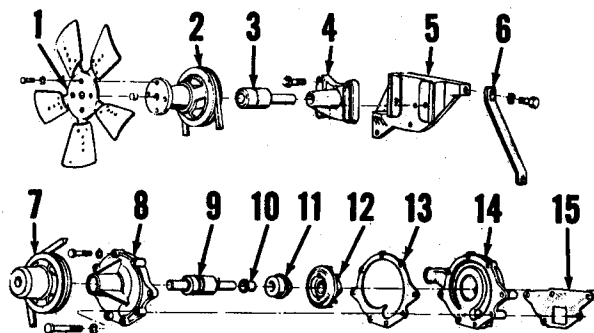
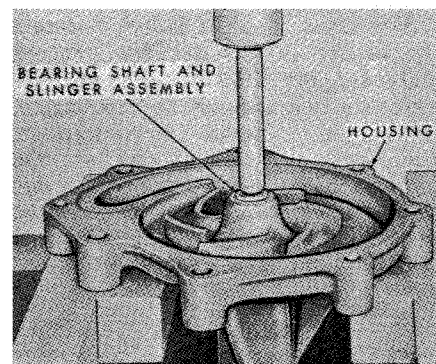

Fig. 122—Exploded view of fan and bracket assembly (top) and water pump assembly (bottom).
Fig. 123—Press bearing, shaft and slinger assembly from rotor and pump housing.
cover (14—Fig. 122) and press the shaft and bearing assembly (9) out towards front of housing as shown in Fig. 123. Drive the seal (11—Fig. 122) out towards rear of housing.
156. To remove fan and fan bracket assembly, unbolt fan from pulley (2—Fig. 122) hub, then unbolt bracket (4) from support (5) and remove the bracket, bearing and pulley as an assembly. Remove fan from radiator shroud.